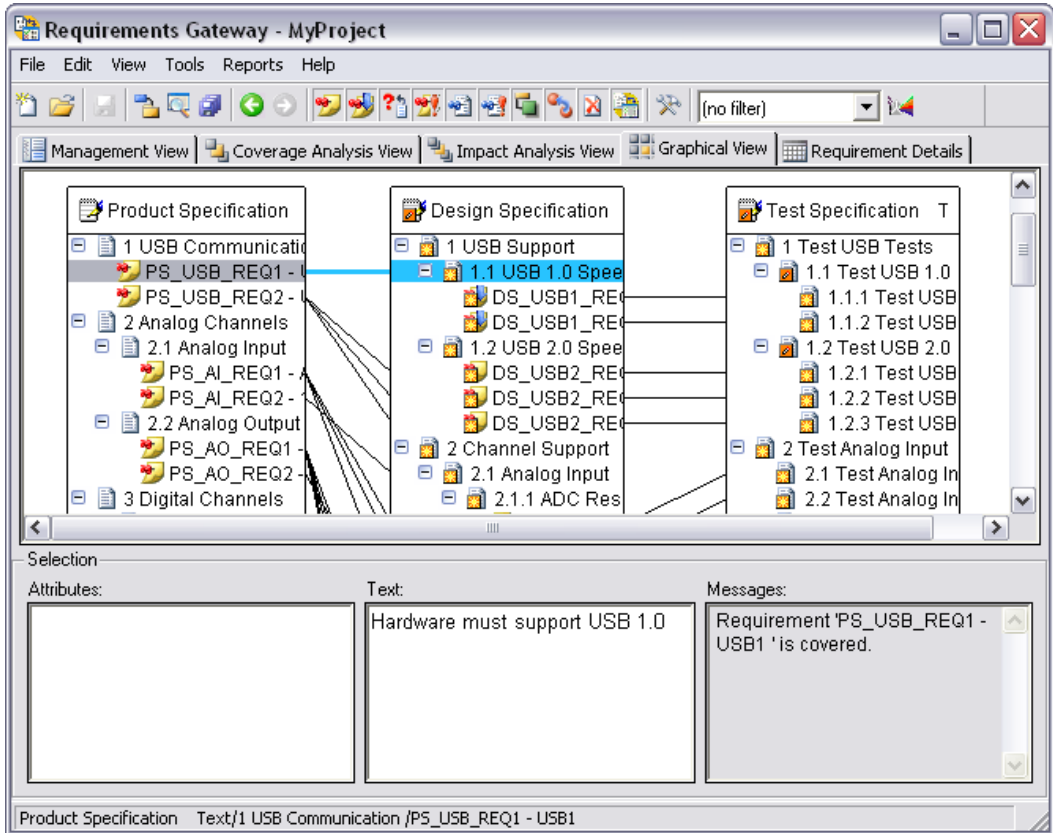

Figure 3-14. PS_USB_REQ1 Selected in Graphical View
3. Select the **PS_USB_REQ1** requirement in the Product Specification document. The Graphical View highlights the PS_USB_REQ1 requirement, the covering 1.1 USB 1.0 Speeds section, and the line between the elements, as shown in Figure 3-14.